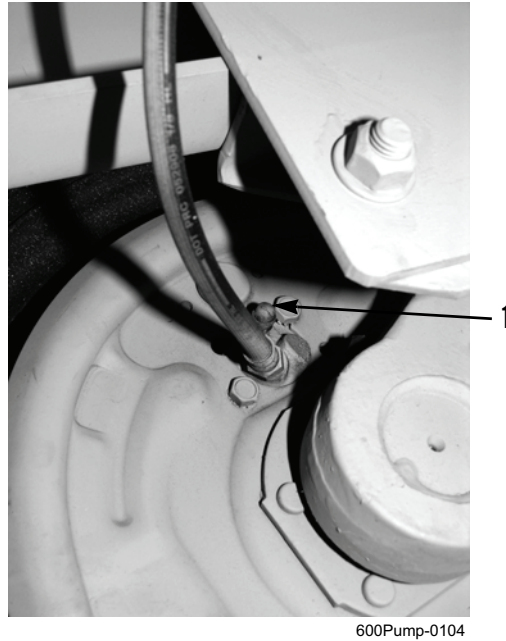

Figure 12. Wheel Cylinder Bleeder Fitting.
2. Remove dust cap from wheel cylinder bleeder fitting (Figure 12, Item 1) and connect one end of clear bleeder hose to fitting.
4. Open wheel cylinder bleeder fitting (Figure 12, Item 1).
6. Close wheel cylinder bleeder fitting (Figure 12, Item 1).
8. Remove hose from wheel cylinder bleeder fitting (Figure 12, Item 1).
9. Install dust cap on wheel cylinder bleeder fitting (Figure 12, Item 1).